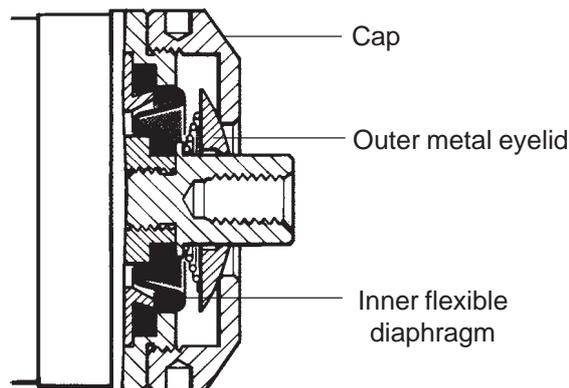

Figure 34
3. The probe mechanism is protected by an outer metal eyelid and an inner flexible diaphragm (see figure 34).